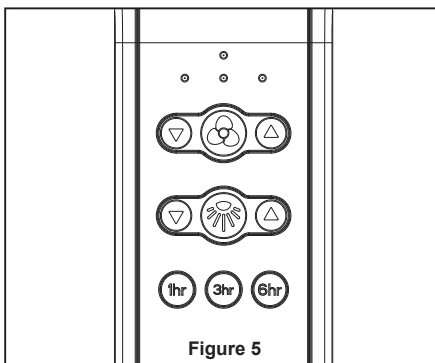

Figure 5
4. After connections have been made, the wires should be spread apart with the grounded conductor and the equipment-grounding conductor on one side of the outlet box and the ungrounded conductor on the other side of outlet box, then turn leads upward and carefully push leads into the outlet box, with the white and green leads to one side of the box and the black leads to the other side. (Figure 5)
- ☐ 5. Remote functions: (Figure 5)